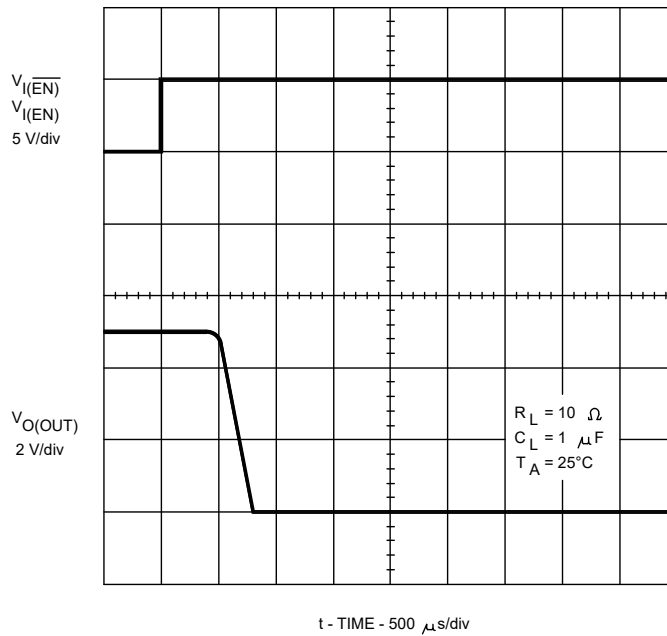

FIGURE 6. Turn-Off delay and fall time with 1  $\mu F$  load.
3.5.6 Turn off delay and fall time with 1  $\mu$ F load. The turn off delay and fall time with 1  $\mu$ F load shall be as shown in figure 6.